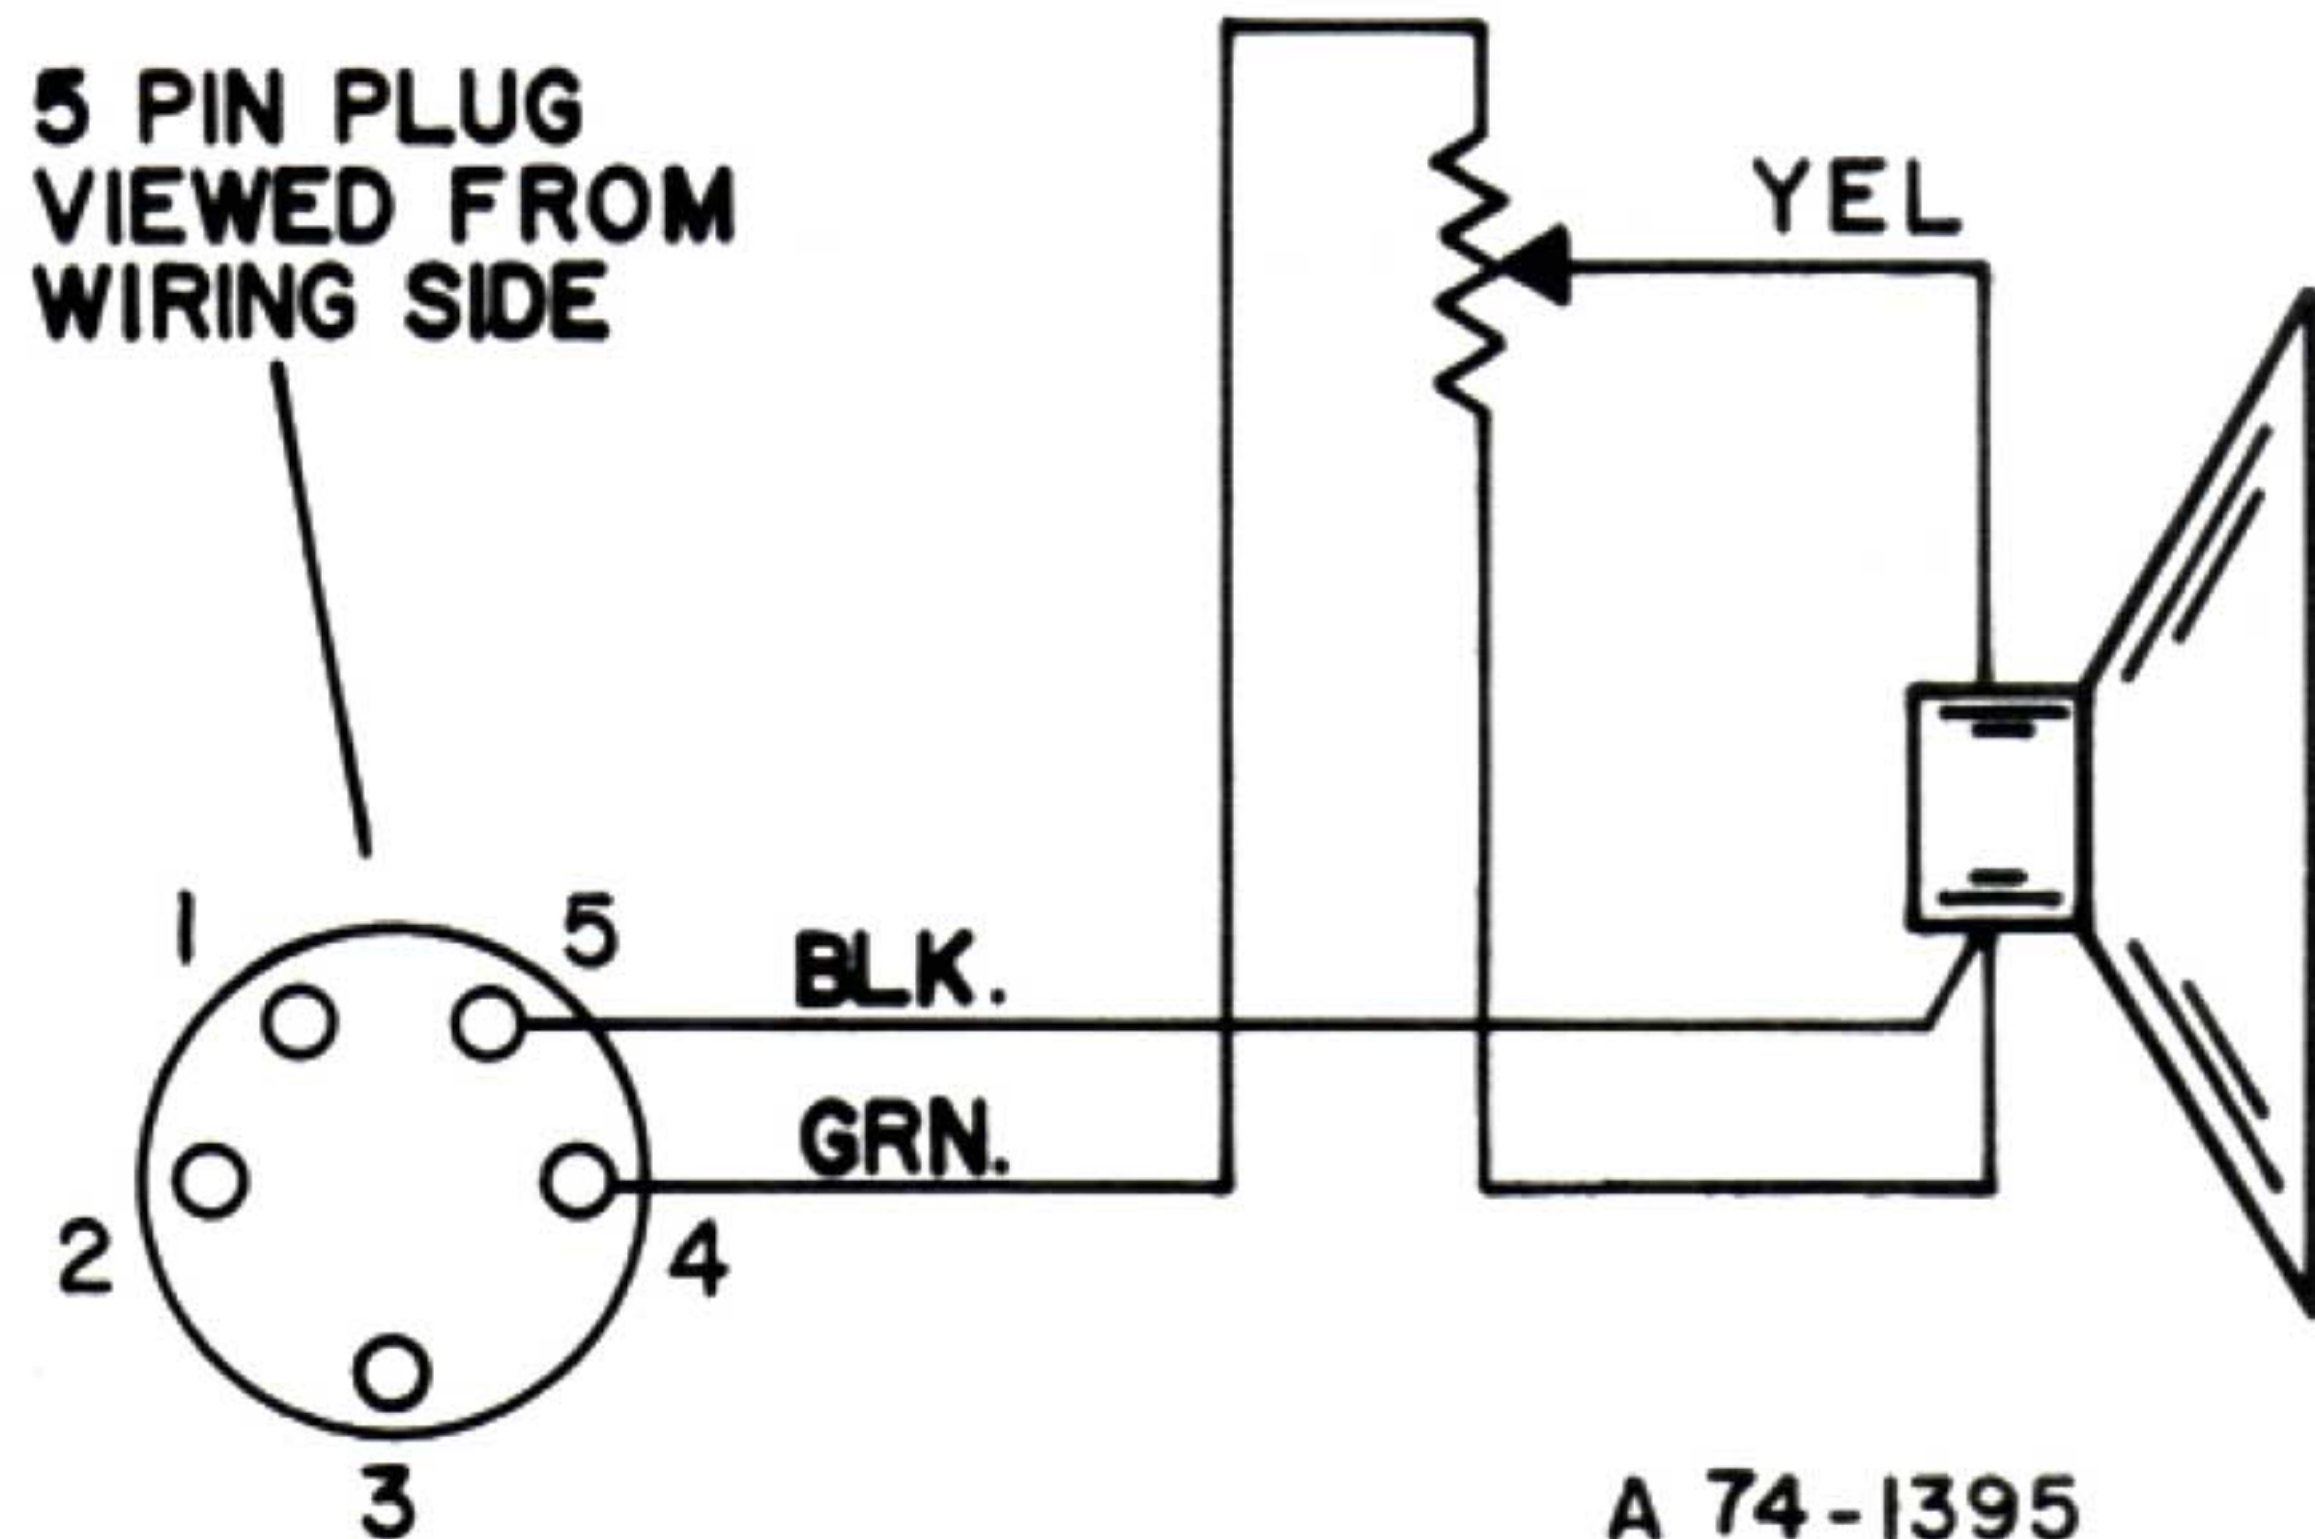

Figure 3 - Connecting MSK-1 Accessory to Five-Pin Plug
5. Remove the push-on fasteners from the MSK-1 leads, and connect the leads to the five-pin plug provided with the MSK-1 accessory, as shown in figure 3. Solder the green lead to pin 4 of the plug and the black lead to pin 5.